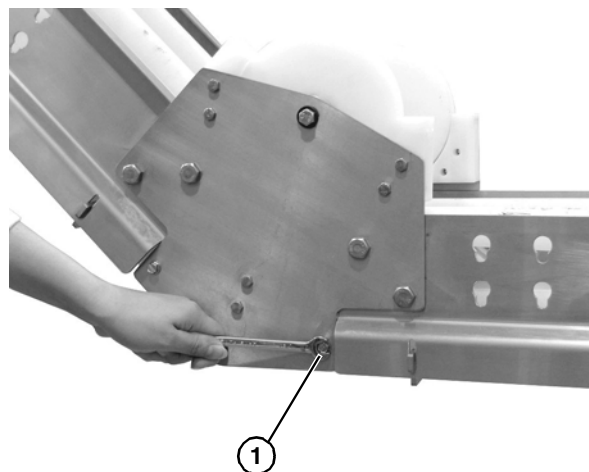

Figure 12
3. Secure belt returns to lower knuckle with cap screw (**Figure 12, item 1**).